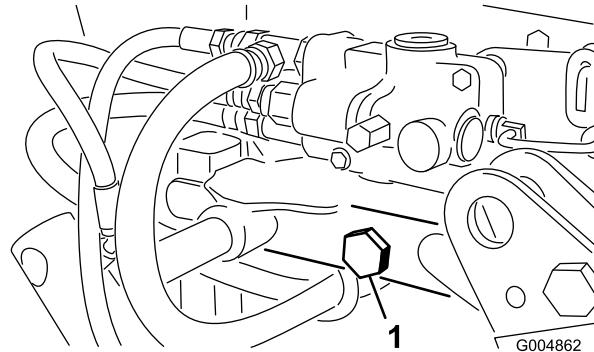

Figure 105
17. Carefully remove the bolts (3/4 inch), washers and nuts that secure the deck frame to the rear frame (3 on the left side and 2 on the right side) (Figure 105). Retain 4 of the bolts for re-installation and store the remaining for summer change over.